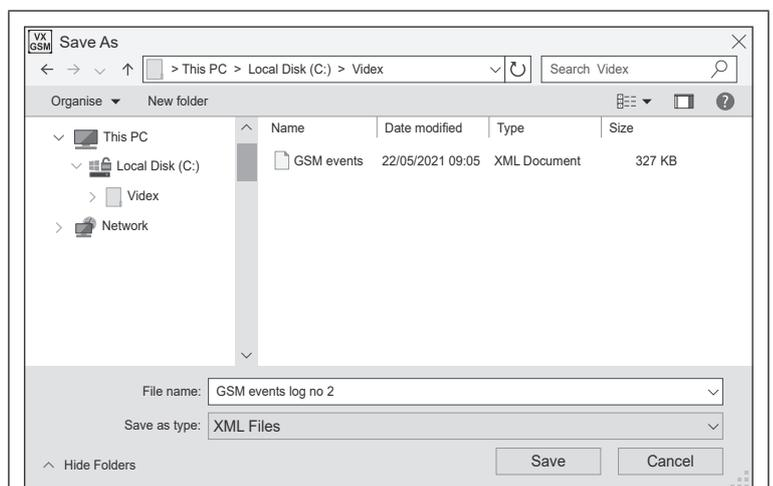

Fig. 72
- The 'Save As' window will appear, as shown in **Fig.72**, select a location of where to save the event log (the file will be saved as an XML document).